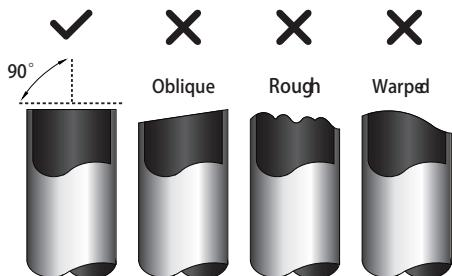

Fig. 8.3
- Make sure that the pipe is cut at a perfect 90° angle. Refer to Fig. 8.3 for examples of bad cuts